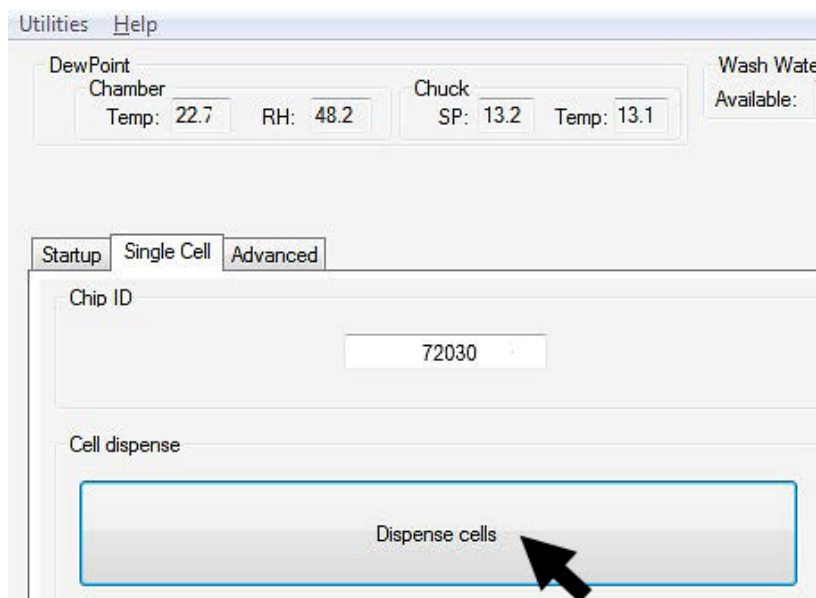

Figure 12. Using the MSND software to dispense cells into the ICELL8 3' DE Chip.
- In the ICELL8 MSND Software GUI, click [Dispense cells] button (Figure 12, below) then click **OK** after carefully going through all questions prompted. The ICELL8 MSND will start dispensing 50 nl of cell suspension, positive/negative control, or fiducial to the appropriate nanowells.